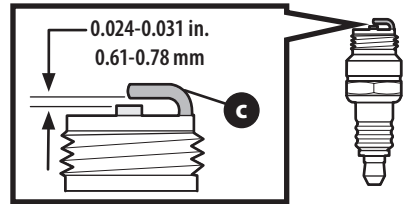

Figure 17
3. Measure the plug gap with a feeler gauge. Correct as necessary by bending side electrode (c) (Figure 17). The gap should be set to 0.024 - 0.031 in.